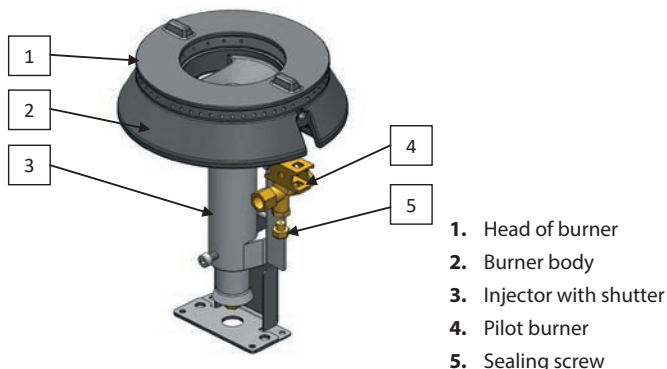

Figure 16. onstruction of the burner on the example of 7kW burner.
1. If you convert the stove from natural gas to propane gas or LPG, unscrew the sealing screw on the bottom of the pilot pilot, then remove the pilot nozzle with the feature 40 and screw in the nozzle with the feature 20 all the way (in case of propane or LPG, the same nozzle is used). Then screw in the sealing screw. (Fig 16 item 5) Light the pilot burner. The flame should heat the thermocouple and burn with the bright flame. If this is not the case, adjust the airflow using the shutter at the top of the pilot.